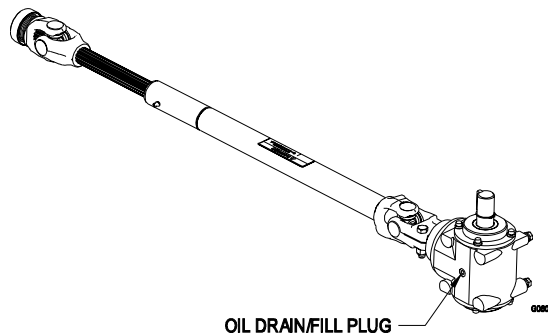

FIGURE 11
- d) Remove the oil drain plug on the side of the gearbox section and drain oil. (See Figure 11)